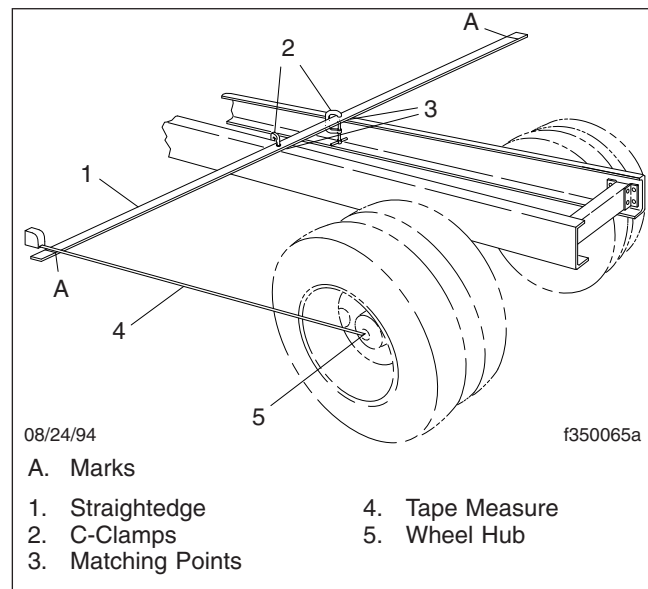

Fig. 3, Straightedge to Wheel Hub Measurement
4. Line up the straightedge with the two matching points. Check that the straightedge extends out about the same distance on each side of the frame rail. Using C-clamps, clamp the straightedge to the frame; see Fig. 3. The straightedge must line up exactly with the points.
5. Measuring from the outside edge of each frame rail, mark the straightedge on both sides of the frame. The marks (Fig. 3, Ref. A) must be of equal distance from the frame and as far from the frame rail as the tires are at their farthest point from the frame.
6. On each side of the vehicle, measure the distance from the mark on the straightedge to the center of the wheel hub. See Fig. 3.